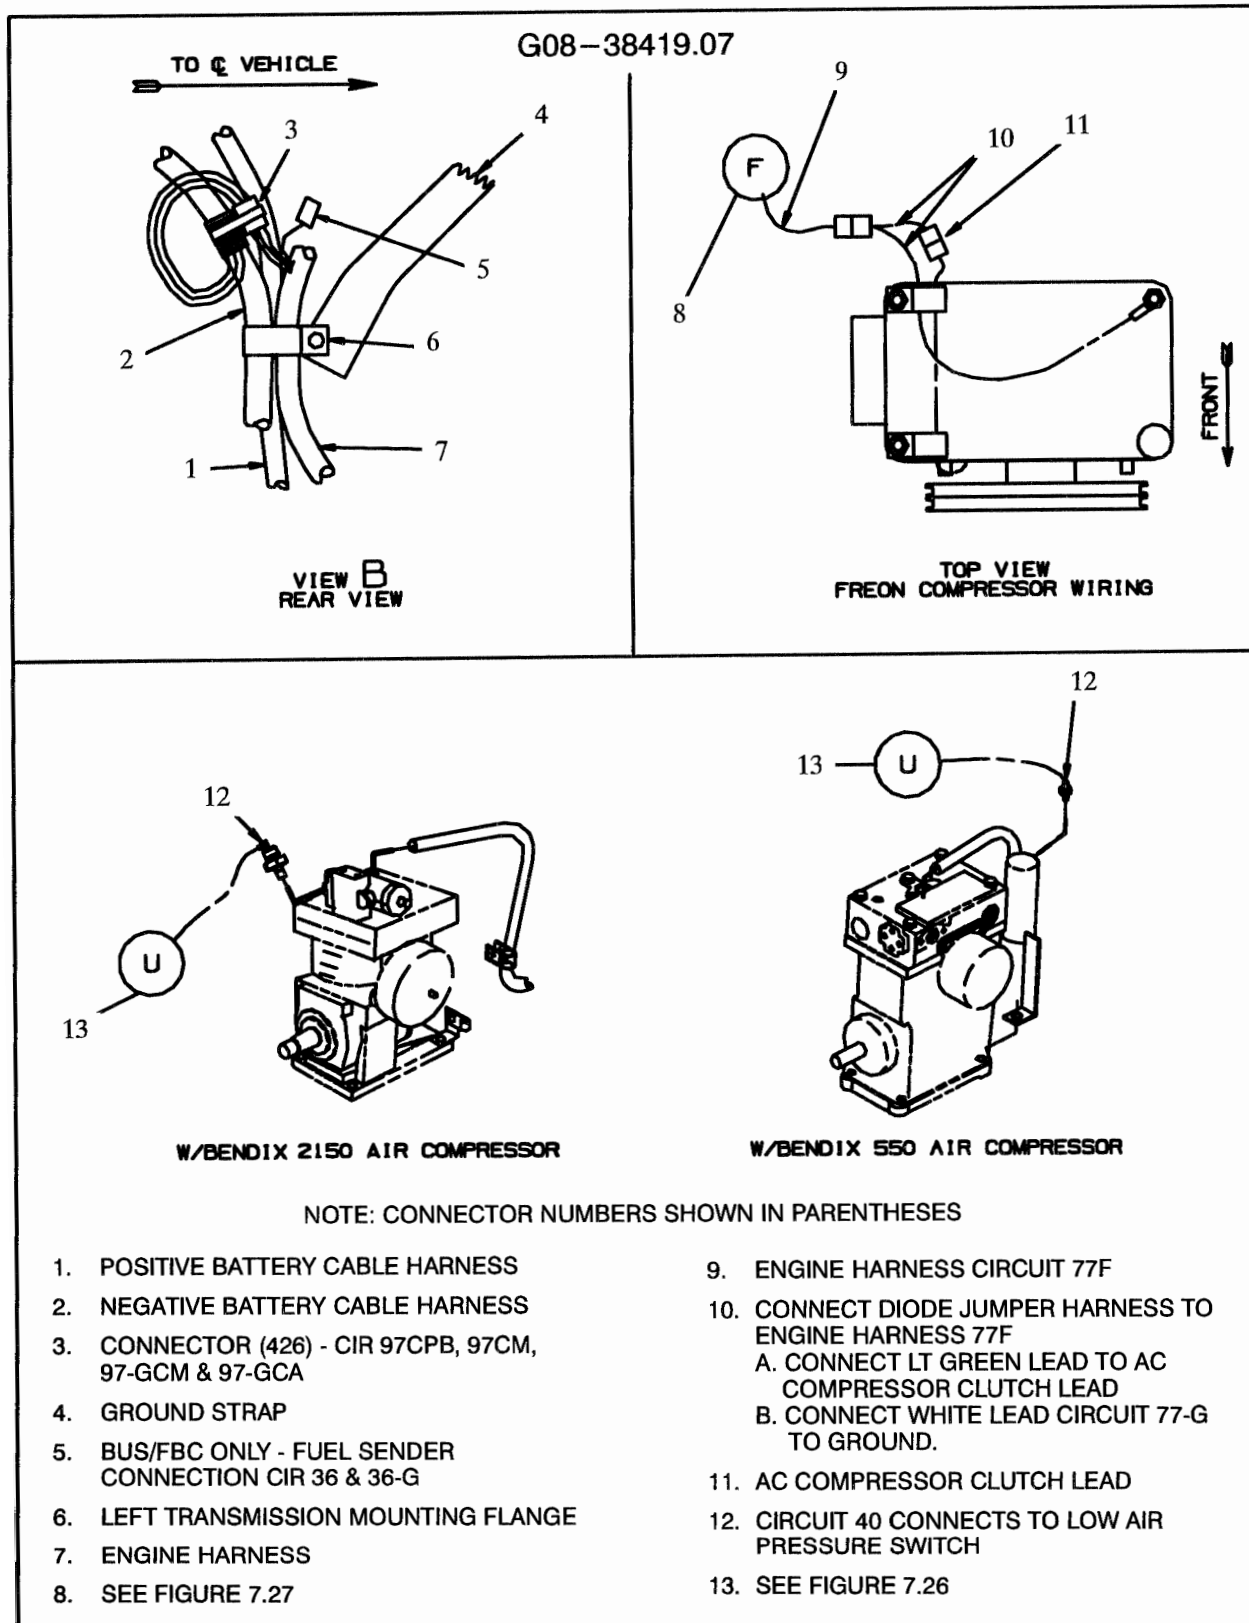

Figure 7.28 - V8 Electronic Engine Wiring (Truck & FBC)
12. CONNECTOR (426F) TO NEG BATTERY CABLE (SEE FIGURE 7.28 VIEW B)